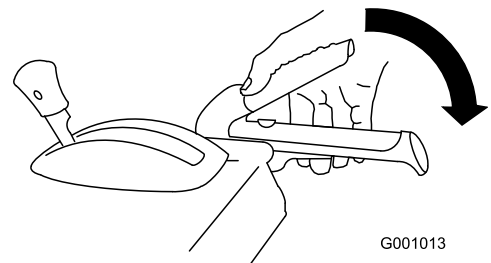

Figure 28
2. Engage the auger/impeller lever and hold it in place (Figure 28).